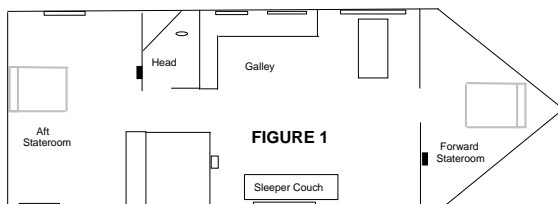

FIGURE 1
- **FOR MAXIMUM PROTECTION** install CO alarms in all sleeping areas. (See Figure 1)